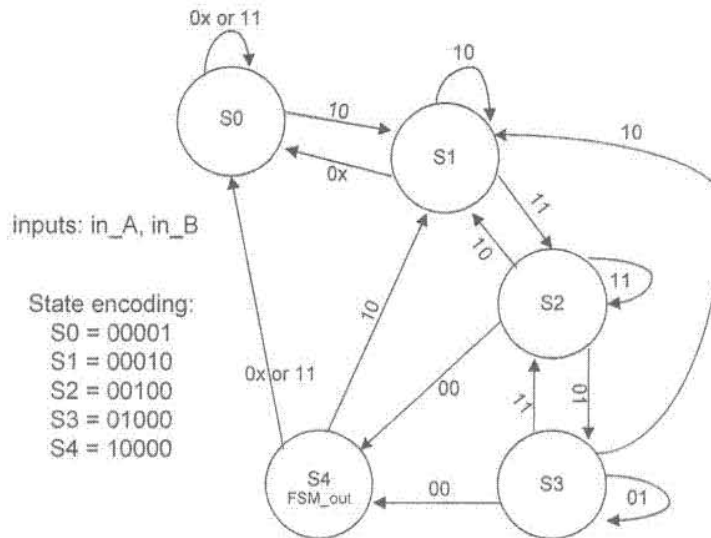

Figure 1.1
1. Figure 1.1 depicts the state diagram of a 5-state finite state machine (FSM) with inputs in_A and in_B , and an output FSM_out . One-hot state encoding is used. The output is FSM_out set high in state $S4$ and low in all other states. All input signals change shortly before the rising edge of the clock signal clk .